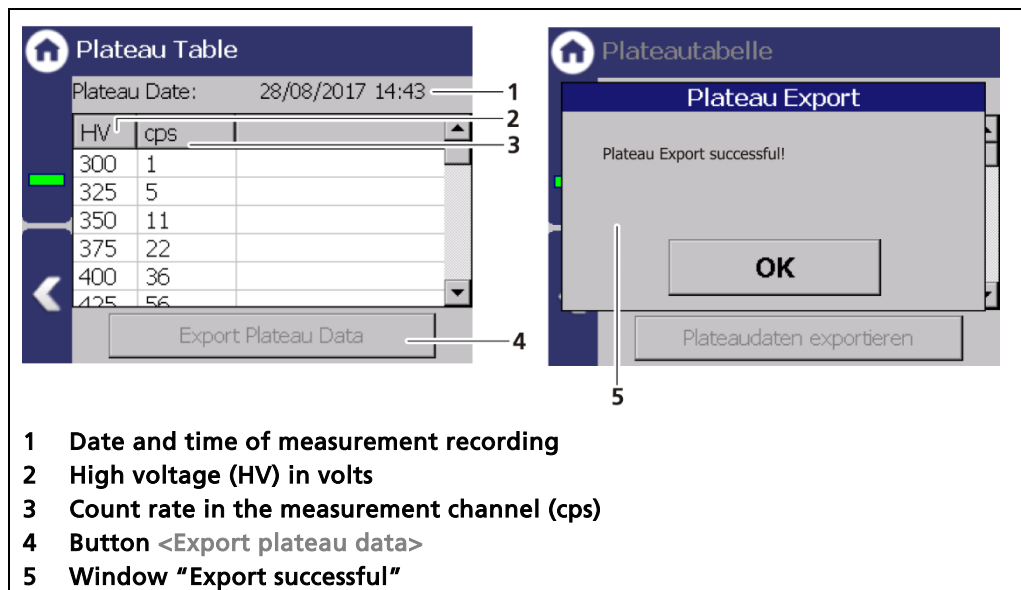
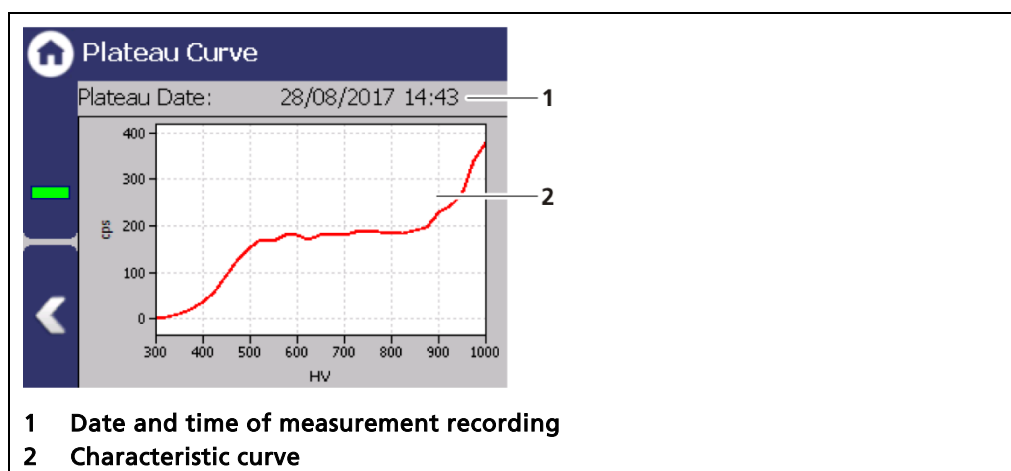

Fig. 67 Plateau table
Fig. 68 Plateau curve
- ▶ The recorded values are read and entered into the table (Fig. 67), the plateau curve (Fig. 68) is drawn and stored automatically.
2. Click on the button <Export plateau data> (Fig. 67, item 5).
The mapped characteristic curve (Fig. 68, item 2) of the last complete plateau measurement is displayed in the submenu "Plateau curve".